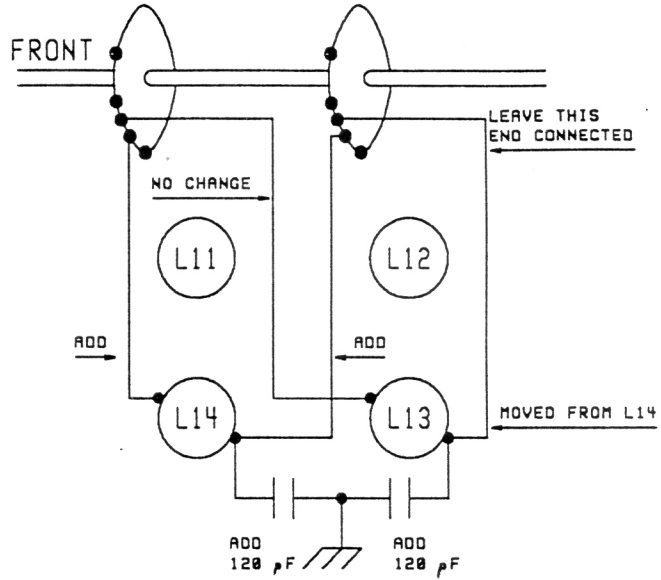

FIGURE 2
4. Add a wire between each side of L14 to the bandswitch (FIG.2). We recommend the use of AWG #18-22 wire and the use of solid insulation tubes like the ones already present.
5. Add a 120pF 500V silver mica or disc ceramic capacitor from the right side of L14 to ground (FIG.2).
6. Add a 120pF 500V silver mica or disc ceramic capacitor from the right side of L13 to ground (FIG.2).